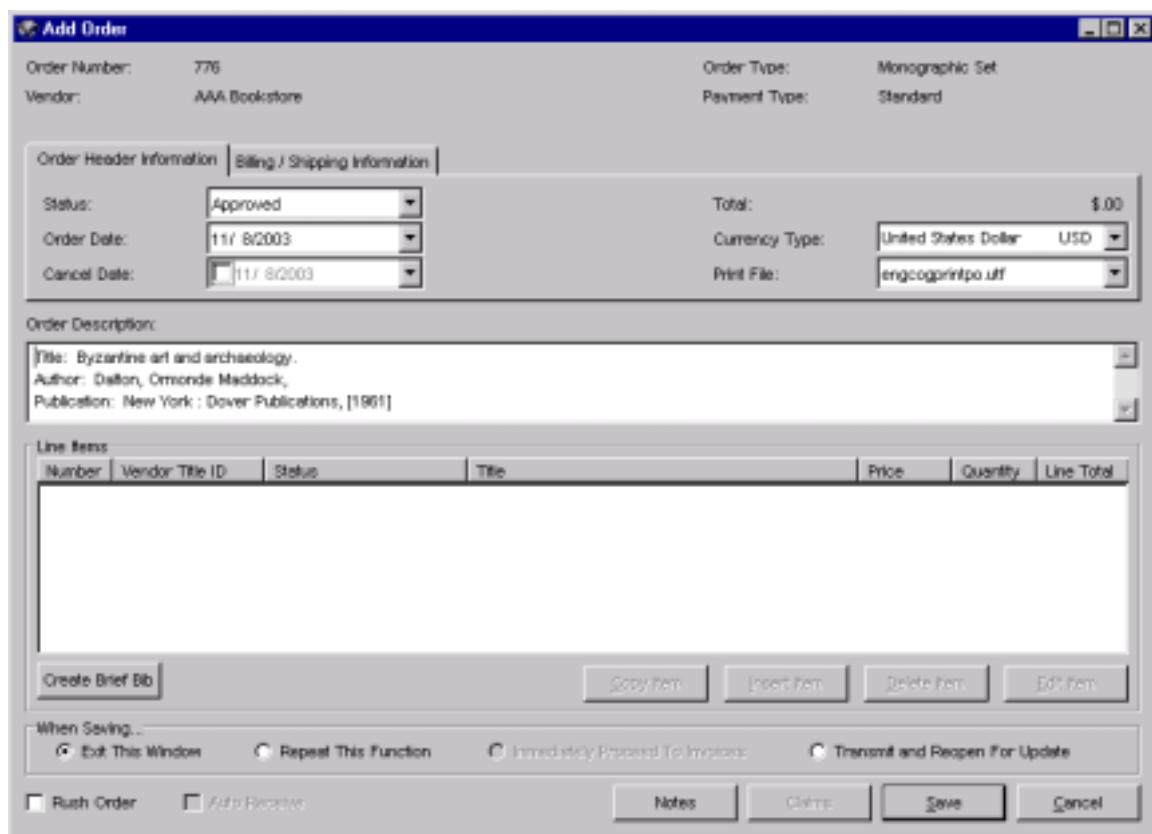

Figure 2-5. Add Order Window – Catch-all Order Group
- In the Order Description detail box (*Figure 2-5*), type information or drag and drop bibliographic information (author, title, and publication data or data from linked 880 tags only) from the View Bibliographic Record window.